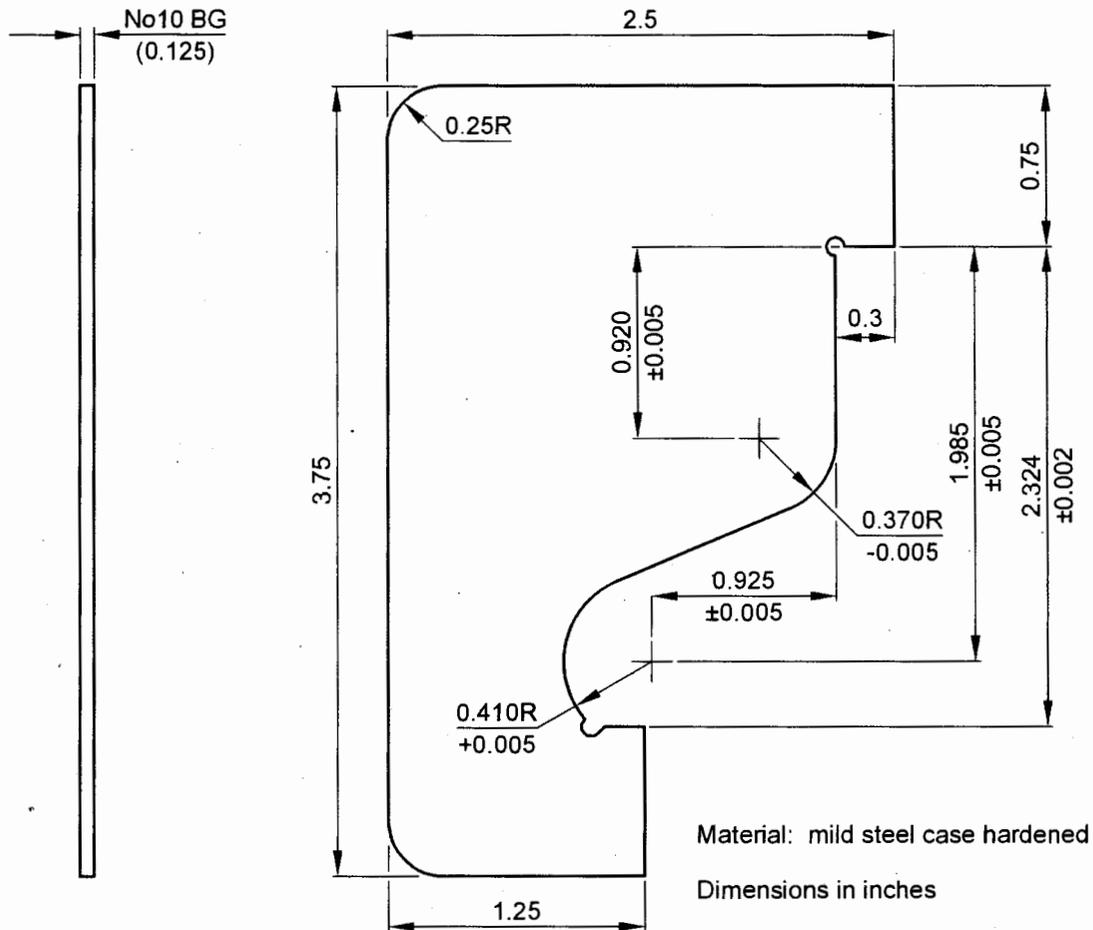

Fig 1 Profile gauge for trigger
- 17.3 The profile of the trigger is correct. Tails of triggers which have been 'set' are to be re-formed to the contours of the profile gauge as shown in Fig 1.